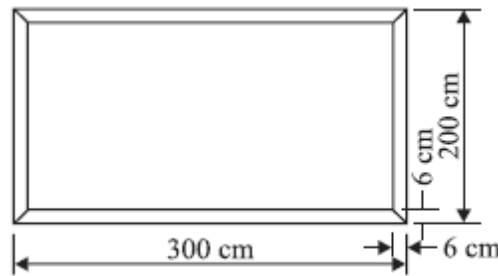

Fig. 5.28. Welded frame
13 A rectangular frame shown in Fig. 5.28 is to be made using plates of 300 cm × 6 cm × 4 mm and 200 cm × 6 cm × 4 mm sizes. Analyze the cost of filler metal and gases used to make 100 frames. The following data is available for leftward welding: (8) BT4
- (16)